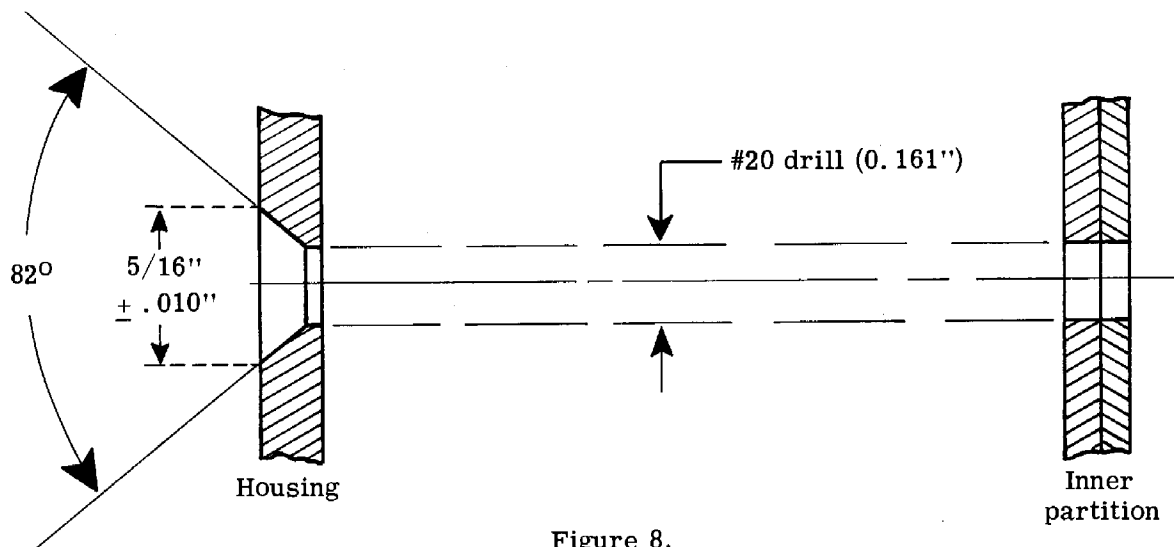

Figure 8.
- (4) Using the jig and a #20 drill (0.161 inch), preferably mounted in a drill press, drill hole through outside of housing and inner partition (see Fig. 8).
- (5) Using an 82-degree countersink, countersink outside hole to 5/16 inch outside diameter to accommodate swivel pin (see Fig. 8).